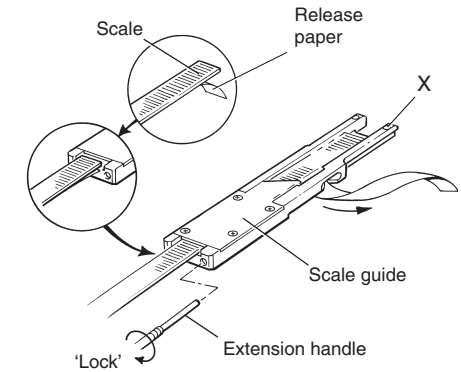

Figure 2b Scale insertion
2. Feed the scale as far as point X, (Figure 2b), checking that the backing paper is removed correctly by the feeding action.